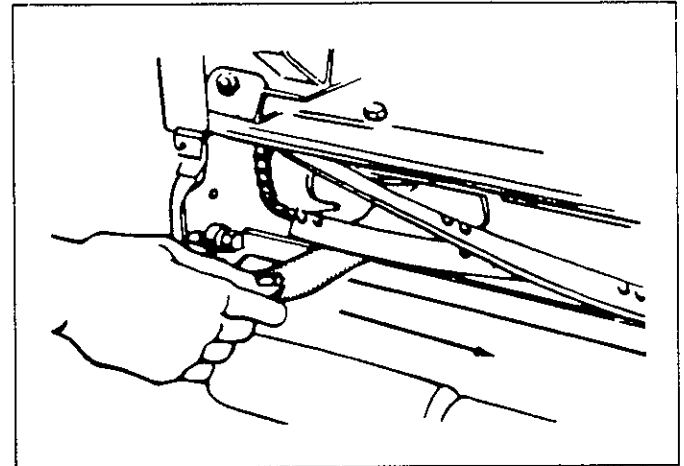

FIGURE 8
1. Insert a strip of quality .003" thick paper (writing paper or a magazine page), approximately 2" wide and 6" long, between the cutter bar and the blades as shown in figure 8. This paper is used as a gauge.